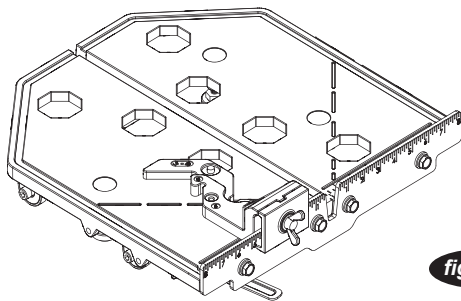

figure 5
- The ruler guide has inches marked along the top to allow convenient measurements and to promote precision cuts. (see figure 5)